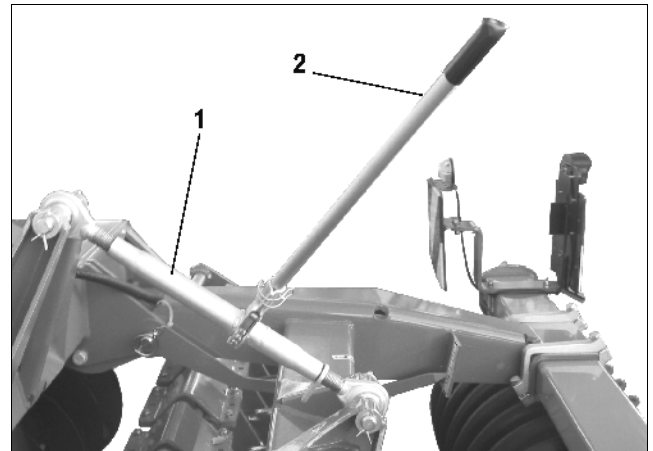

Fig. 15
- Depth adjustment by turning the setting spindle (Fig. 15/1) by using the lever (Fig. 15/2).